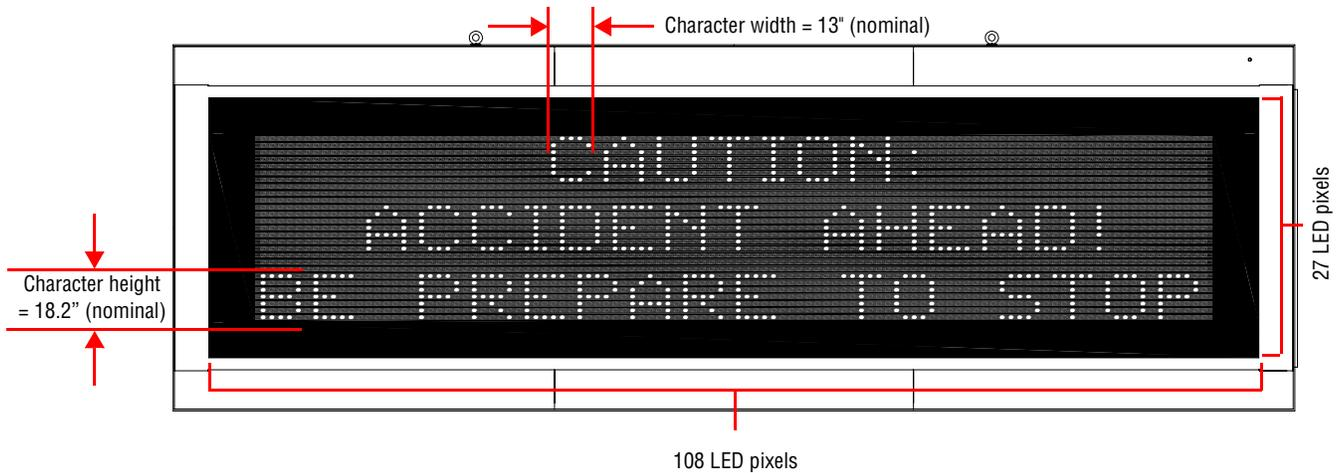

Figure 2: Display size
- Display size: 27 rows x 108 columns (see Figure 2).
- Character height: 18 inches, nominal (see Figure 2).
- Character width: 9 inches, nominal (see Figure 2).